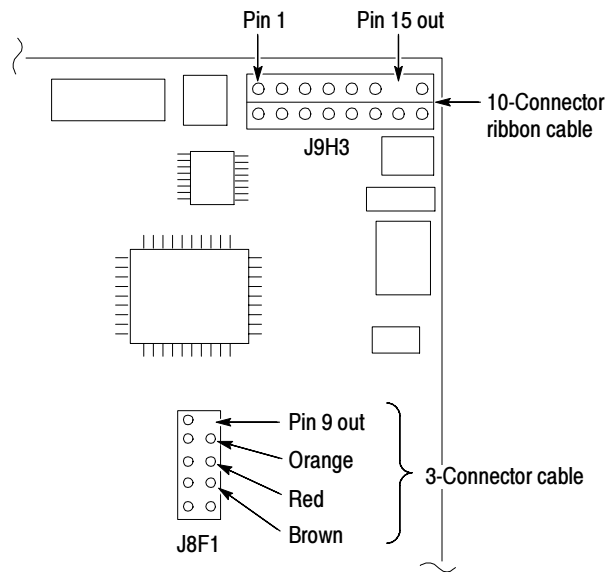
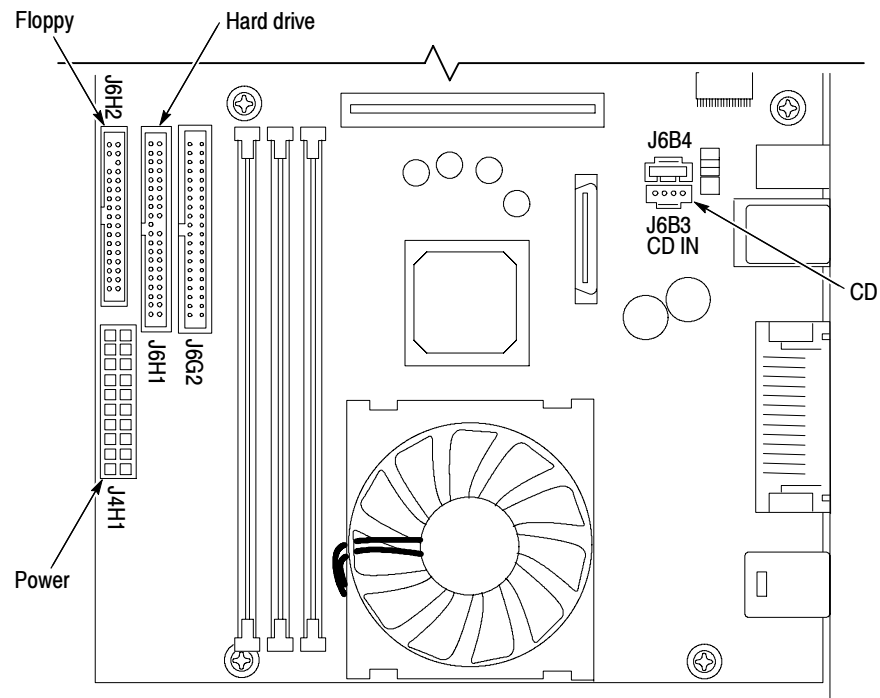

Figure 9: J8F1 and J9H3 connector locations on the motherboard
Figure 10: J6B3, J4H1, J6H2, and J4H1 connector locations on the motherboard
NOTE. *Note cable and connector locations for later reassembly. J8F1, J9H3, J6B3, J4H1, and J6H2 connector locations have changed on the new CPU assembly, see Figure 9, on page 15 and Figure 10, on page 16.*
- a. J8F1 and J9H3 connector locations on the new motherboard. See Figure 9.
- c. J6B3, J4H1, J6H2, and J4H1 connector locations on the motherboard. See Figure 10, on page 16.